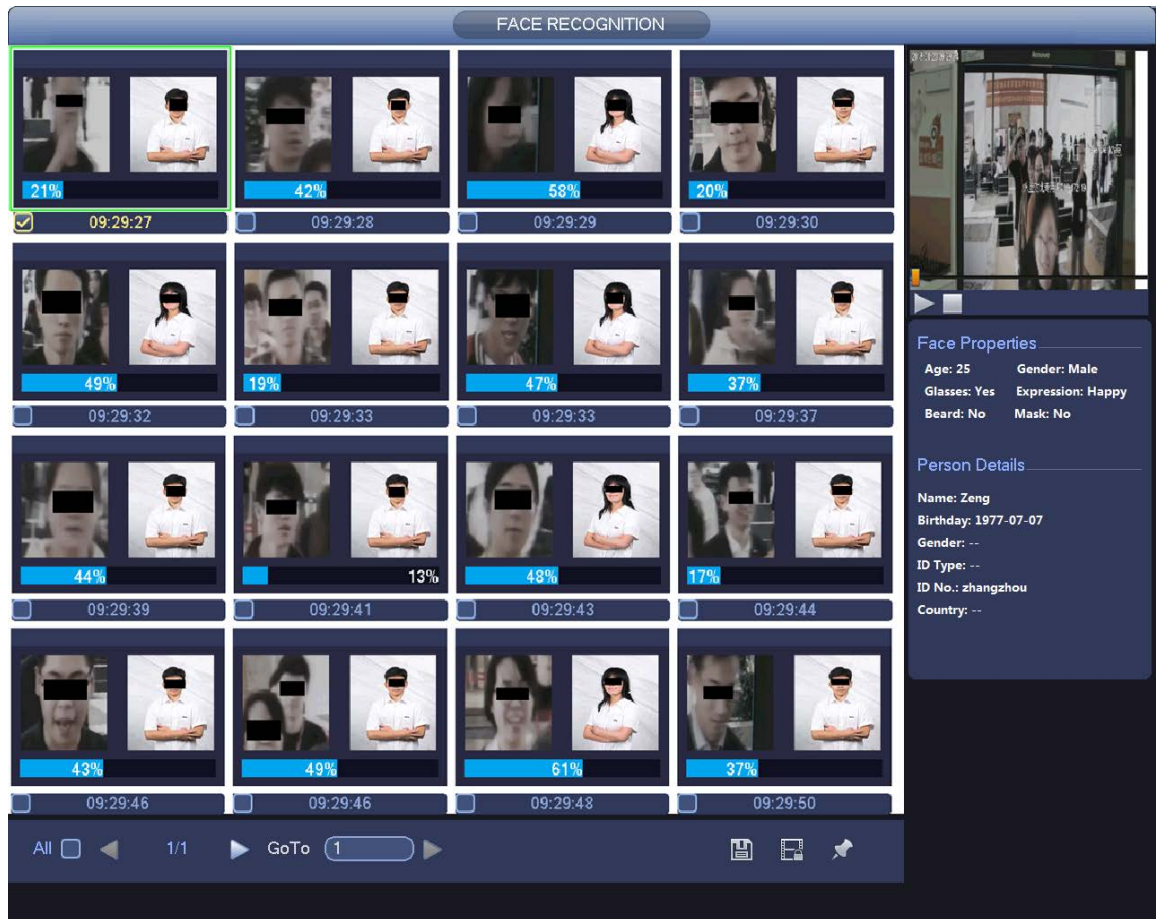

Figure 4-98
- Select the file, click  and select the backup catalog in the backup interface. Select backup type and file type, choose the file and click Start to save the file to an external storage device. See Figure 4-98.